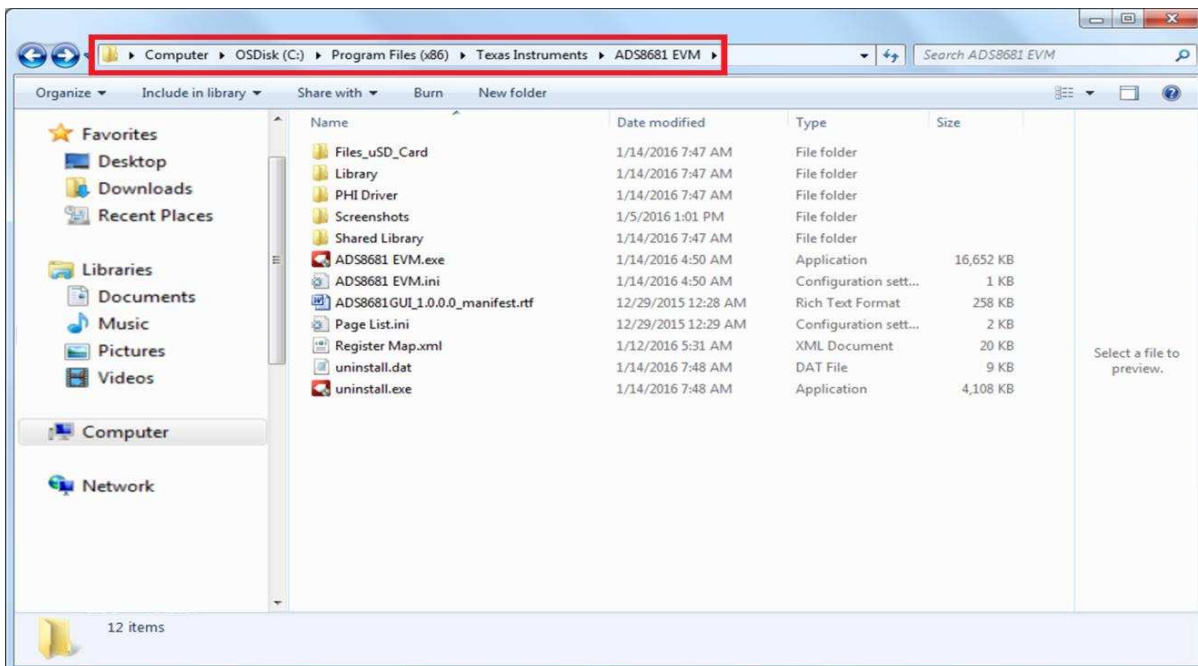

Figure 10. Launch ADS8681 EVM GUI Software
3. Launch the ADS8681EVM GUI software from the *Start Menu* of computer, *Desktop Shortcut*, or *Installation folder* (Figure 10).